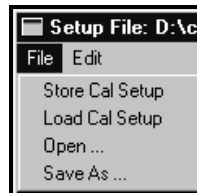

Figure 3-95. Setup Dialog - File Menu
- ❑ **SETUP > File > Store Cal Setup:** Selecting **Store Cal Setup** from the **File** menu on the **Setup** dialog shown in Figure 3-95 saves the current setup to a file (.set) in the currently opened cal group subdirectory. The filename format is: *xxx.set*, where *xxx* is the analysis-type that the user is currently logged in as. The analysis-type is displayed in the upper right corner of the **Main Analysis** window. Examples are: *pri.set*, *sec.set*, *res.set*, etc.
- ❑ **SETUP > File > Load Cal Setup:** Selecting **Load Cal Setup** from the **File** menu on the **Setup** dialog shown in Figure 3-95 loads the setup the file (*if present*) from the currently opened cal group subdirectory. This function 'looks' for a setup filename based on the analysis-type that the user is currently logged in as. If none exists, a message box appears informing the user of this fact. The analysis-type is displayed in the upper right corner of the **Main Analysis** window. Examples: 1) if you are currently logged in as *PRI* and a *pri.set* exists in the currently opened cal group, the setup file will be loaded, 2) if you are currently logged in as *SEC* and a *pri.set* exists in the currently opened cal group, the setup file will not be loaded and message box will appear, 3) if you are currently logged in as *PRI* and a *sec.set* exists in the currently opened cal group, the setup file will not be loaded and message box will appear, etc.
- ❑ **SETUP > File > Open ...:** Selecting **Open ...** from the **File** menu on the **Setup** dialog shown in Figure 3-95 displays a typical Windows **Open** dialog directed to the `\corestar\setup` subdirectory. Select a desired setup file (*.set*) and click **OK** to load the setup. This provides a way to share setup files between users. If the desired setup file is located on a different drive, in a different directory, or on a shared network drive, simply change to the preferred directory and load the setup file. After loading a shared setup file, be sure to select **File > Store Cal Setup** to save the setup file to the cal group. This ensures that the appropriate filename (*pri.set*, *sec.set*, *res.set*, etc.) will automatically be assigned for the analyst-type currently in use.
- ❑ **SETUP > File > Save As ...:** Selecting **Save As ...** from the **File** menu on the **Setup** dialog shown in Figure 3-95 displays a typical Windows **Save As** dialog directed to the `\corestar\setup` subdirectory. Enter any desired name for the setup filename and click **OK** to save. This provides a way to share setup files between users. The setup file may be saved to a different drive, a shared network drive, or other directory as specified by the user.